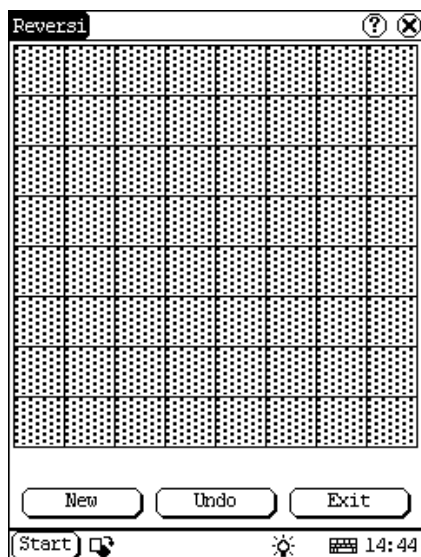

Figure 4-14
- 1) In the pop-up menu of 'Game', select 'Reversi' to open the Chess Board. (See Figure 4-14)